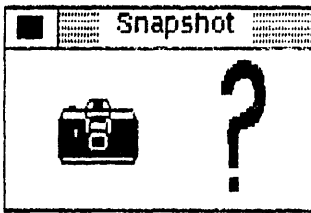

Fig. 3-4. A new desk accessory is added by GEM Paint—**Snapshot**.
**Snapshot** displays a screen "camera" which can store any GEM Desktop or GEM application image on a disk (Fig. 3-4).